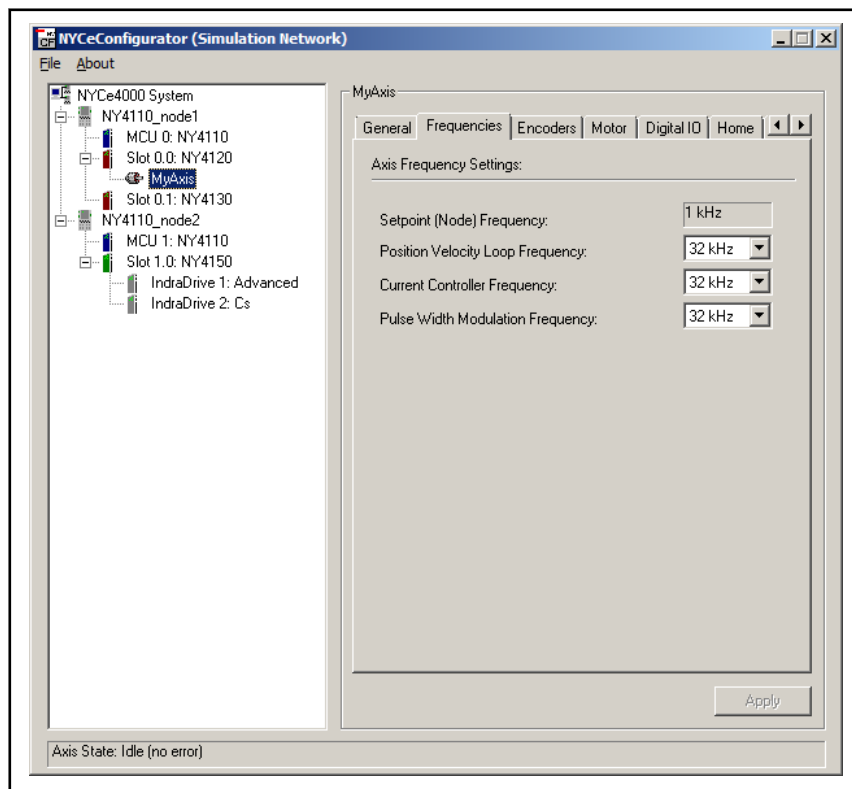

Fig. 2-20: Axis frequency settings
8. Set the frequencies as shown in fig. 2-20 "Axis frequency settings" on page 34. Note that if you have a small motor, the Pulse Width Modulation Frequency possibly should be chosen higher to prevent instability.